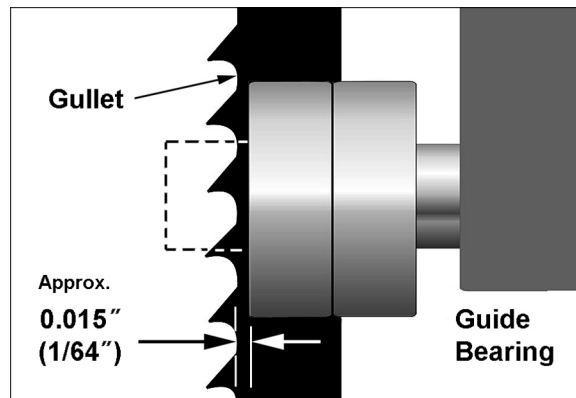

Figure 7-16
- Slide entire guide bracket until front of guide bearings are about 0.015" (1/64") behind the blade's gullet (curved area at base of tooth). See Figure 7-16.